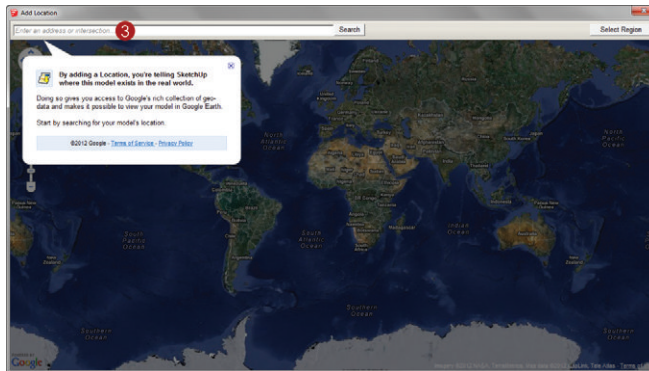

Figure 15.3 The Add Location window
2. Click the Add Location button on the Google toolbar (Figure 15.3). This automatically launches a Google Maps interface where you can search for and find any location on planet Earth.